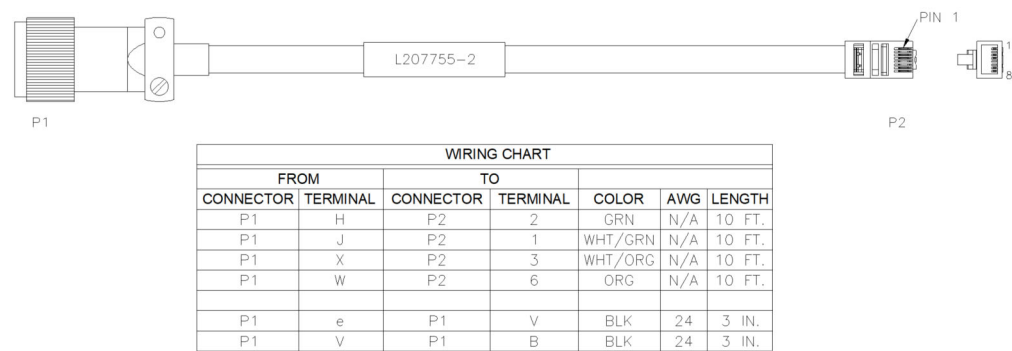

Figure 1: Quick-Start Cable, Ethernet (207755)
For convenience all amplifiers ship with a 'Quick-Start' communications cable. This allows the user to immediately connect the amplifier to a PC and begin operation. Ethernet ready units ship with a Quick-Start cable fitted with a 10-base T connector as shown in Figure 1.
5. Connect the supplied Quick-Start Control Cable from Port J4 to the Ethernet port on your computer. This connection will unmute the amplifier. Review the cable schematic in Figure 1.